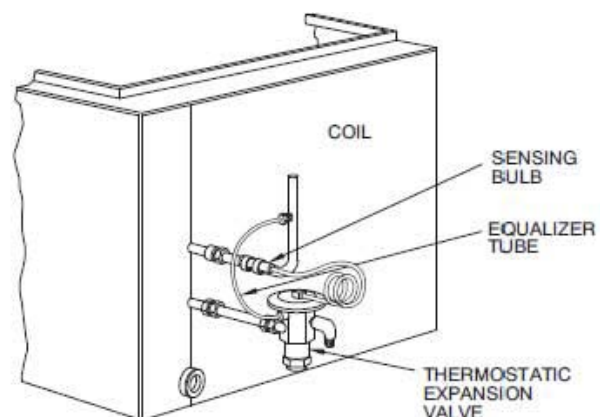

Fig. 26 – Typical TXV Installation
8. Attach TXV bulb to vapor tube inside cabinet, in same location as original was when removed, using supplied bulb clamps (nylon or copper). See Fig. 26 for correct positioning of sensing bulb.